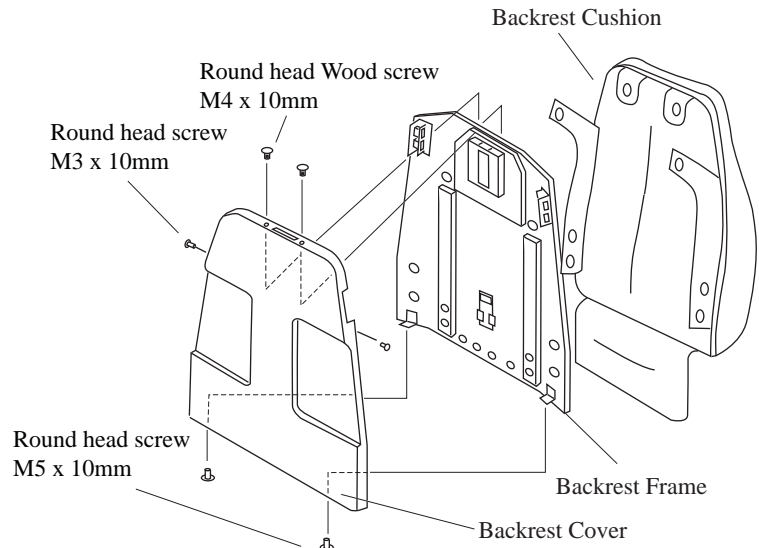

Fig 4-2-4
- 8) Snap on backrest and seat cushion with snaps provided. Velcro is also used to keep upholstery secure to chair. Reattach backrest cover to backrest frame using 6 screws. See Fig 4-2-4.